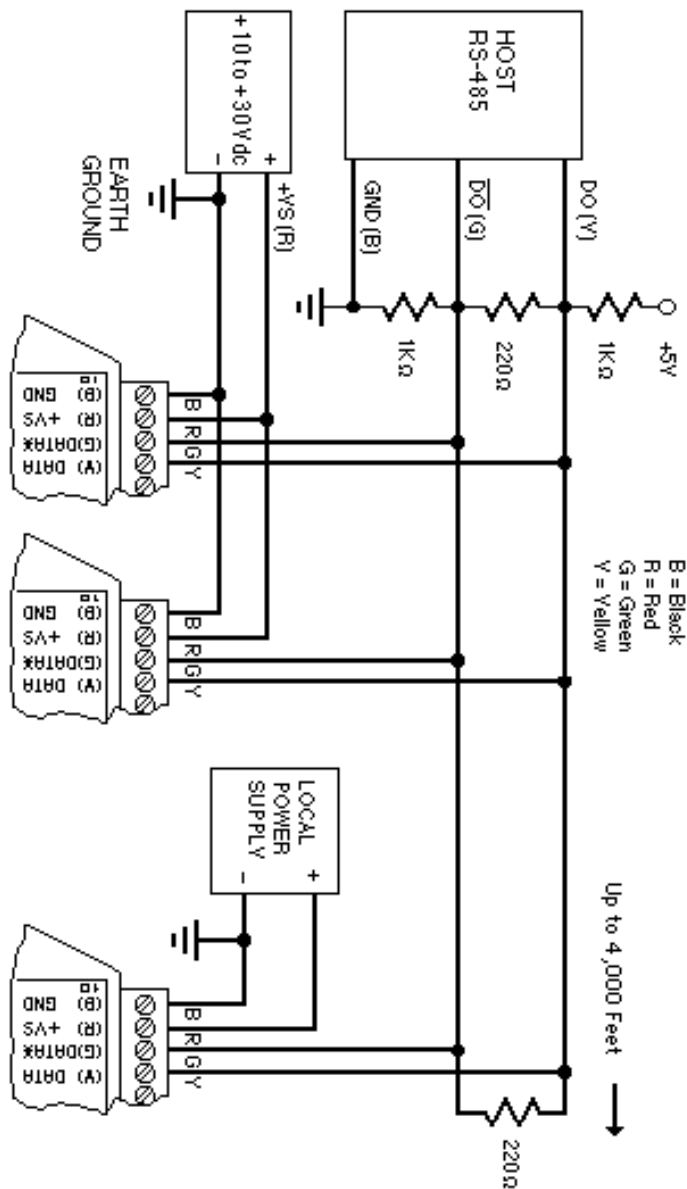

Figure 3.2 RS-485 Network.
Figure 3.2 illustrates the wiring required for multiple-module RS-485 system. Notice that every module has a direct connection to the host system. Any number of modules may be unplugged without affecting the remaining modules. Each module must be setup with a unique address and the addresses can be in any order. All RS-485 modules must be setup for no echo to avoid bus conflicts (see Setup). Also note that the connector pins on each module are labelled with notations (B), (R), (G), and (Y). This designates the colors used on standard 4-wire telephone cable:
When using a bi-directional RS-485 system, there are unavoidable periods of time when all stations on the line are in receive mode. During this time, the communications lines are left floating and are very susceptible to noise. To prevent the generation of random characters, the lines should be biased in a MARK condition as shown in Figure 3.2. The 1K resistors are used to keep the DATA line more positive than the DATA\* line when none of the RS-